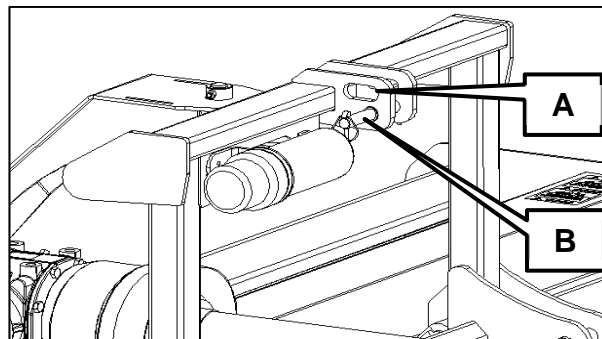

Figure 6.2
The flail mower top link has two working modes; floating and fixed, see Figure 6.2. To cut and maintain flat level ground; such as playing fields and other similar areas that present a lower degree of stress on the linkage; the operator may wish to fix the flail mower parallel to the tractor footprint with the single fixed upper link hole (B). However, for hilly or uneven terrain; and to protect the machine and linkage from damage; the operator will want a degree of float between the tractor footprint and the undulating ground. This can be achieved through use of the top link mounting slot (A).